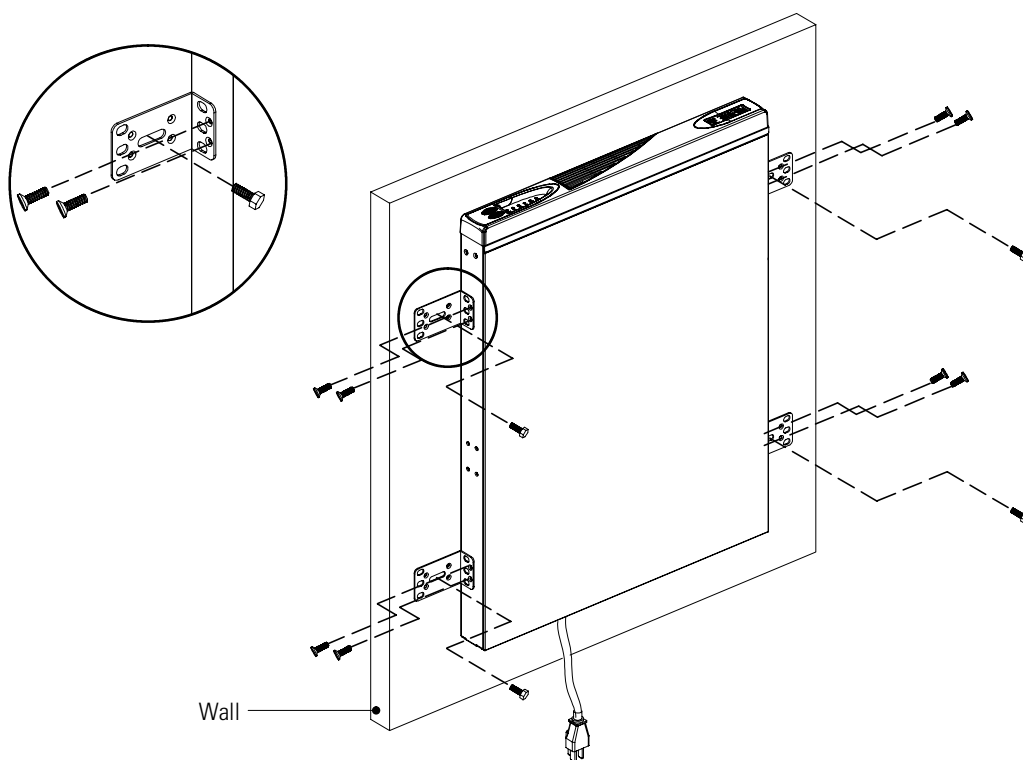

Figure 10. Mounting the UPS to a Wall
2. Attach four mounting brackets to the UPS as shown Figure 10.